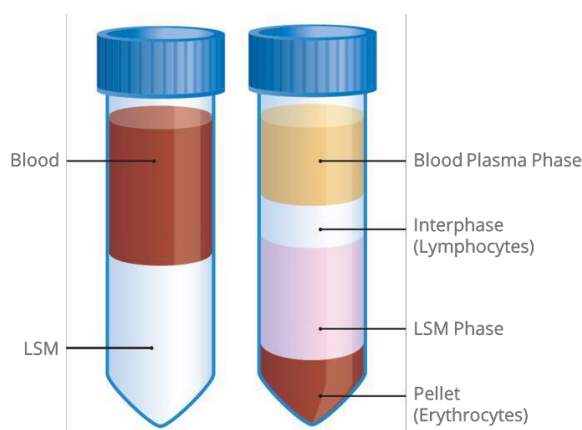

Fig. 1: Blood Separation Tube before (left) and after centrifugation (right).
3) After centrifugation the layering should look as follows in fig. 1: